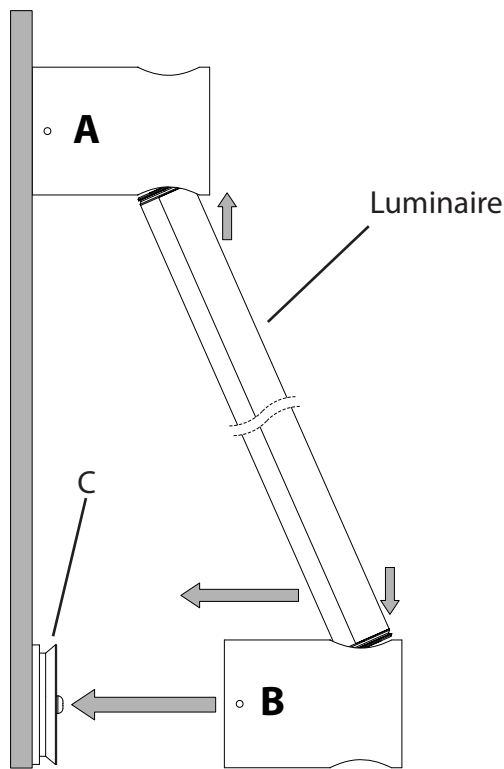

Fig. 11
1. Designate the two connectors on each side of the Luminaire as **A** and **B** (Fig. 11). Leave **Connector A** fully installed to mounting surface. Remove **Connector B** from its mounting bracket (**C**) by loosening set screws with included Allen key.